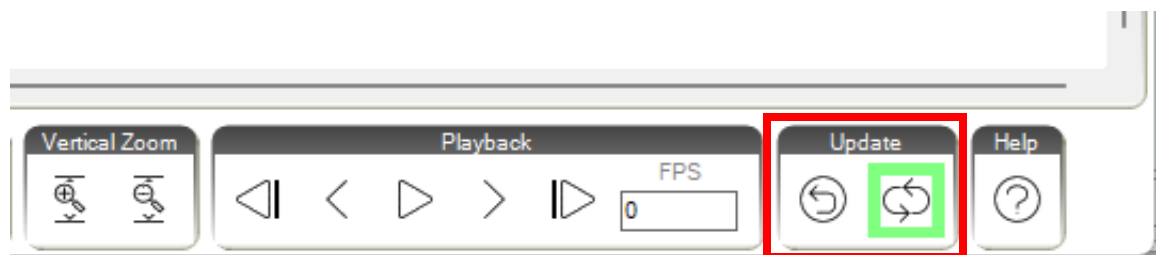

Figure 353: Timeline Update Buttons
- **Update Buttons** - Two buttons exist for updating the Timeline Graph. By default, Automatic update is enabled. This function causes the Timeline Graph to update automatically anytime a Process Object's parameters are updated. A single instance update button also exists, if users choose to disable the automatic update functionality. See Figure 353 (below).